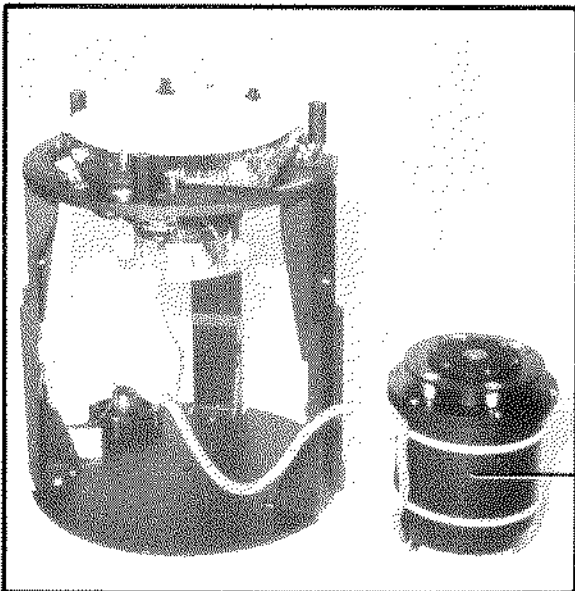

Fig. 3-7:
- Put the outer sphere down beside the gyro compass on a plane surface (see Fig. 3-7).